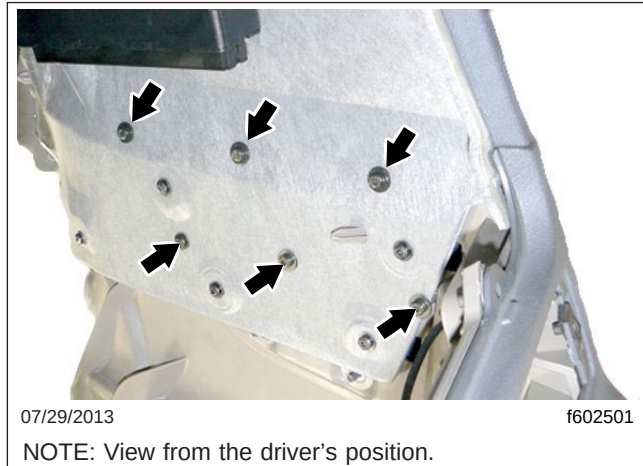

Fig. 4, Self-Tapping Flanged Screw Locations
12. Position a new lower fascia panel on the dash. Install six #10 self-tapping flanged screws (no longer than 1/2 inch) through the drilled holes. See Fig. 4. Tighten the screws only until the head touches the fiberglass panel; do not over-tighten.